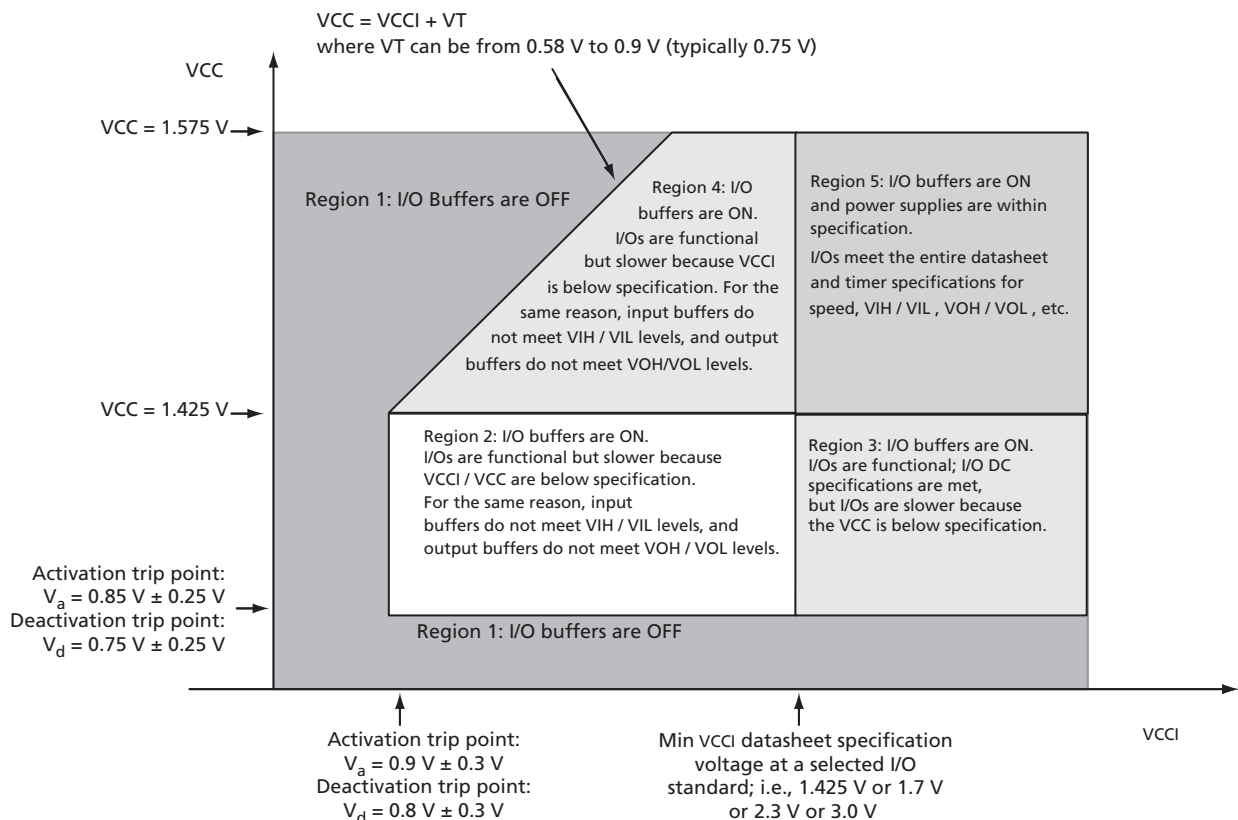

Figure 2-1 • I/O State as a Function of VCCI and VCC Voltage Levels
Sophisticated power-up management circuitry is designed into every ProASIC®3 device. These circuits ensure easy transition from the powered-off state to the powered-up state of the device. The many different supplies can power up in any sequence with minimized current spikes or surges. In addition, the I/O will be in a known state through the power-up sequence. The basic principle is shown in Figure 2-1 on page 2-4.
1. VCC and VCCI are above the minimum specified trip points (Figure 2-1 on page 2-4).
Actel recommends using monotonic power supplies or voltage regulators to ensure proper power-up behavior. Power ramp-up should be monotonic at least until VCC and VCCPLLX exceed brownout activation levels. The VCC activation level is specified as 1.1 V worst-case (see Figure 2-1 on page 2-4 for more details).